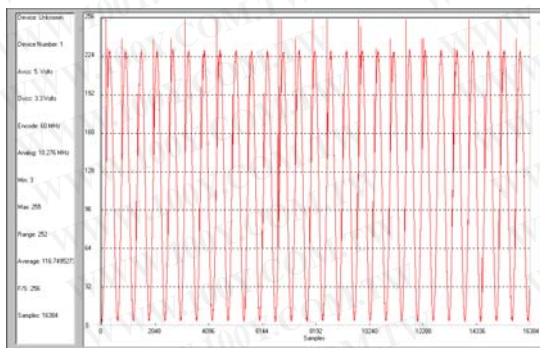

Figure 21. Example of How Timing Issues Affect the Noise Floor
- 1 Put a very slow sine wave signal into the ADC (such as 0.1 MHz to 1 MHz) and initiate a time-domain plot. If the plot looks similar to Figure 21, there are timing issues.